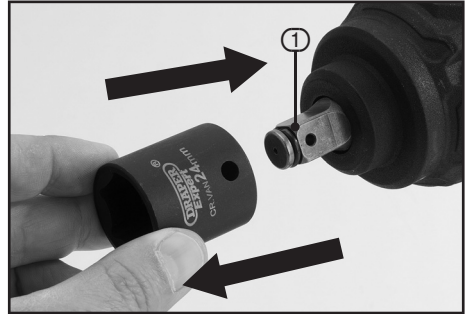

FIG.4
9.1 INSTALLING AND REMOVING SOCKETS – FIG.4